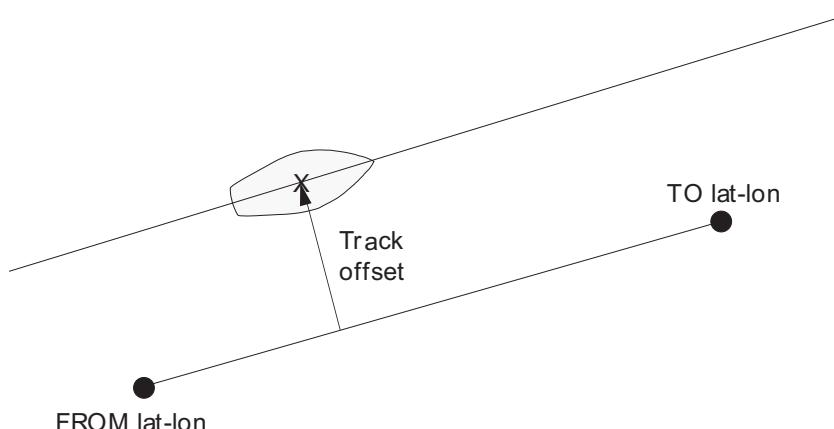

Figure 8: Illustration of SETNAV Parameters
This command permits entry of one set of navigation waypoints (see *Figure 8* on *Page 181*). The origin (FROM) and destination (TO) waypoint coordinates entered are considered on the ellipsoidal surface of the current datum (default WGS84). Once SETNAV has been set, you can monitor the navigation calculations and progress by observing the NAVIGATE log messages.
Track offset is the perpendicular distance from the great circle line drawn between the FROM lat-lon and TO lat-lon waypoints. It establishes the desired navigation path, or track, that runs parallel to the great circle line, which now becomes the offset track, and is set by entering the track offset value in meters. A negative track offset value indicates that the offset track is to the left of the great circle line track. A positive track offset value (no sign required) indicates the offset track is to the right of the great circle line track (looking from origin to destination). See *Figure 8* on *Page 181* for clarification.